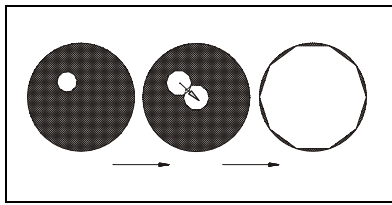

Fig.22
(3) Move the 20X objective into light path and focus the specimen.
(4) Rotate the field diaphragm adjustment ring ③ to put the field diaphragm to the smallest position, then the image of field diaphragm can be observed through eyepiece.
(5) Rotate the condenser up-down knob to adjust the image to the clearest.
(6) Adjust the condenser center adjusting screw ④ to put the image to the center of the field of view.
(7) Open the field diaphragm gradually. If the image is in the center all the time and inscribed to the field of view, it shows condenser has been centered correctly. (See Fig. 22)
(8) In actual use, you can enlarge the field diaphragm a bit and make the image circumscribed to the field of view.